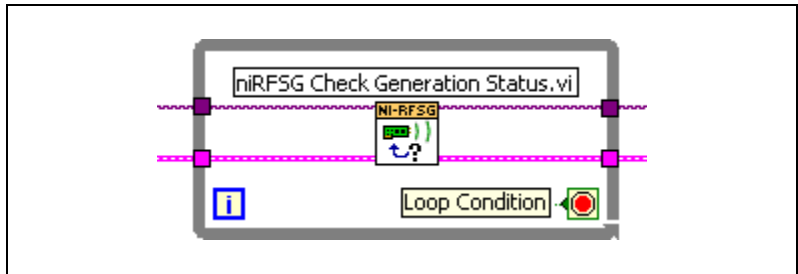

Figure 16. Enclose niRFSG Check Generation Status VI in the While Loop
16. Enclose the niRFSG Check Generation Status VI in the While Loop, as shown in Figure 16.